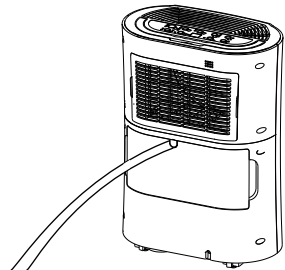

Fig. 6
4. Connect the draining hose (12) to the outlet neck (10) (Fig. 6).
5. Reinstall the water tank (7).